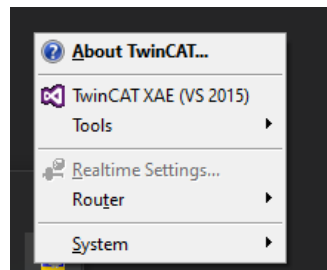

Figure 19: Open up TwinCAT
5. Open TwinCAT by clicking on the TwinCAT icon in the lower right corner and selecting "TwinCAT XAE" (see Figure 19).